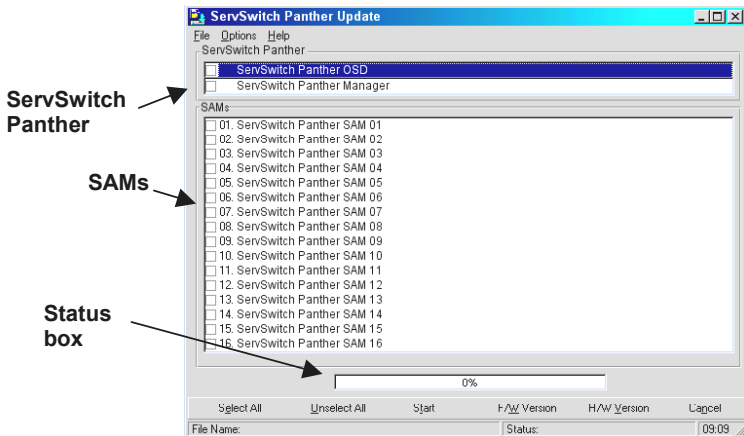

Figure 18 The ServSwitch Panther Switch Update window
1. In the ServSwitch Panther box – see Figure 18 – check the OSD option.
1. In the ServSwitch Panther box– see Figure 18 – check the **ServSwitch Panther Manager** option.